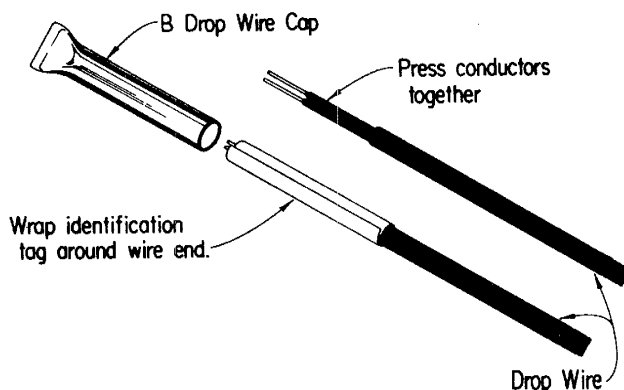

Fig. 1 — Place Identification Tag Around Wire End
- (1) Press the two conductors of the free end of wire together and wrap an identification tag around them.
- (2) Insert the tagged wire end into the open end of a B drop wire cap as far as it will go.
- (3) Place several wrappings of friction tape around the open end of the cap and the wire, thereby sealing the cap opening.
- (4) Bend the capped wire end against the supporting part of the wire and continue the tape wrappings to secure the free wire end.
- (5) These operations are illustrated in Fig. 1, 2, 3, and 4.